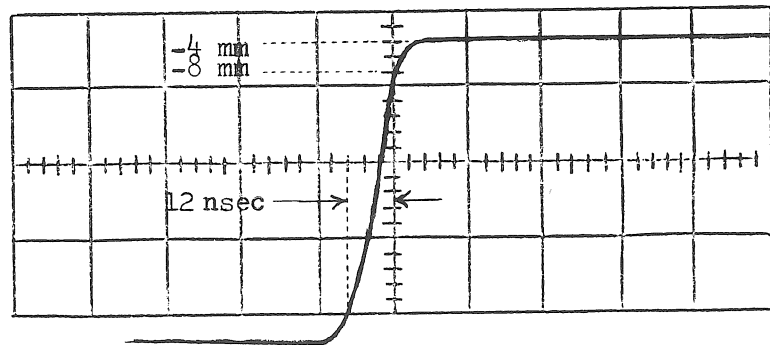

FIG. 15-5. Illustrating risetime measurement technique using standard graticule (15.2, 15.3).
- G. **DO NOT TOUCH VERTICAL POSITION CONTROL.** Adjust Horizontal position controls so the waveform display crosses the vertical centerline of the graticule exactly 8 mm below the top graticule line (See Fig. 15-5).